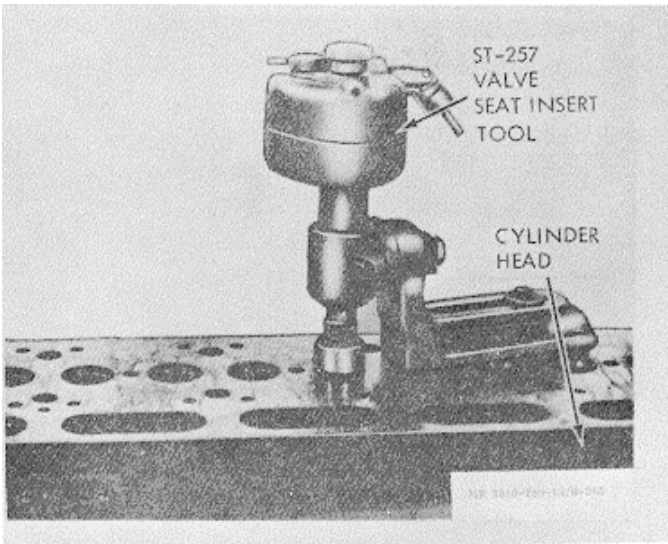

Figure 3-256. Counterbore for valve seat insert.
(2) ST-257 Valve Seat Insert Tool must be used to hold and drive cutters. ST-257 must be driven by an electric motor, figure 3-256.
(3) Cut counterbore 0.006/0.010 in. deeper than insert thickness to permit peening of head to hold insert.